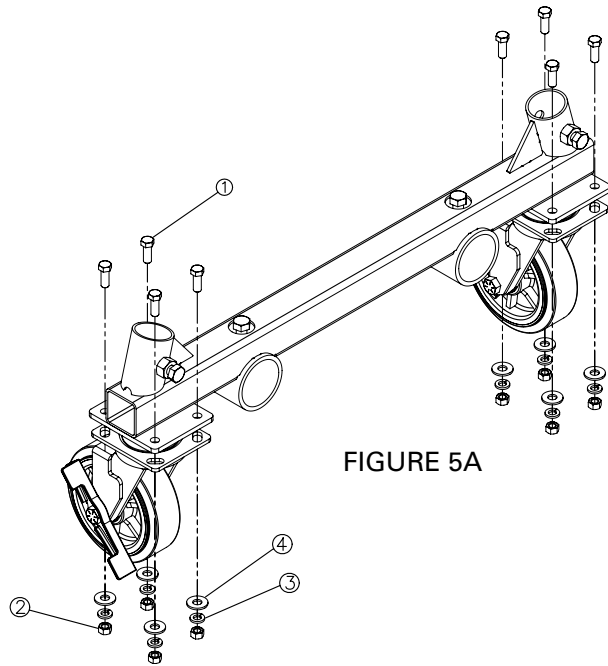

FIGURE 5A
1. Assemble the two swivel casters onto the crossmember base with the correct hardware as shown in Figure 5A. Repeat for the second crossmember.